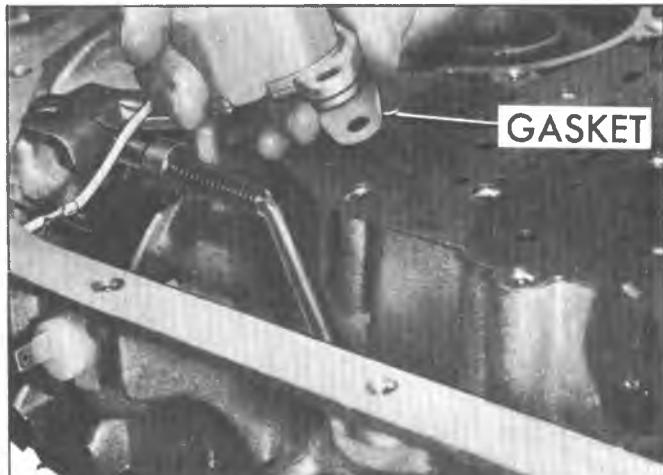

Fig. 144T-Installing Detent Solenoid and Gasket
6. Install detent solenoid assembly with connector facing outer edge of case (fig. 144T). Do not tighten bolts at this time.